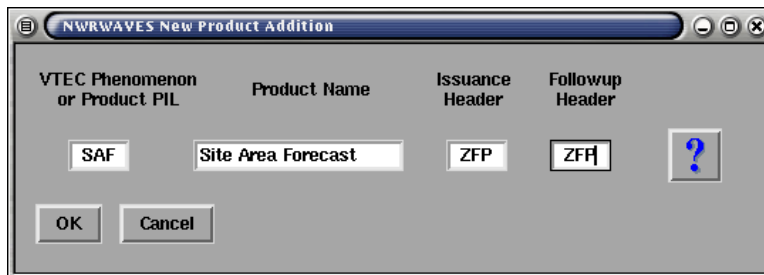

Figure 4f – Add a new product to NWRWAVES
- b) A pop-up GUI interface will display (Figure 4f). In the text boxes provided, fill in the basic information of the new product, similar to what is displayed below.